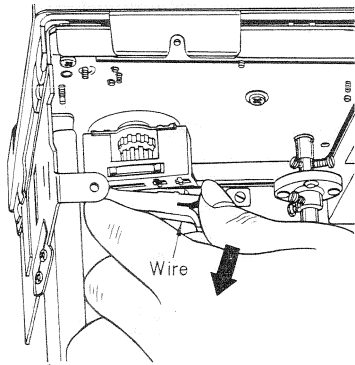

Fig. 18
- 3. Remove the switch wire in the direction of arrow, as shown in fig. 18.